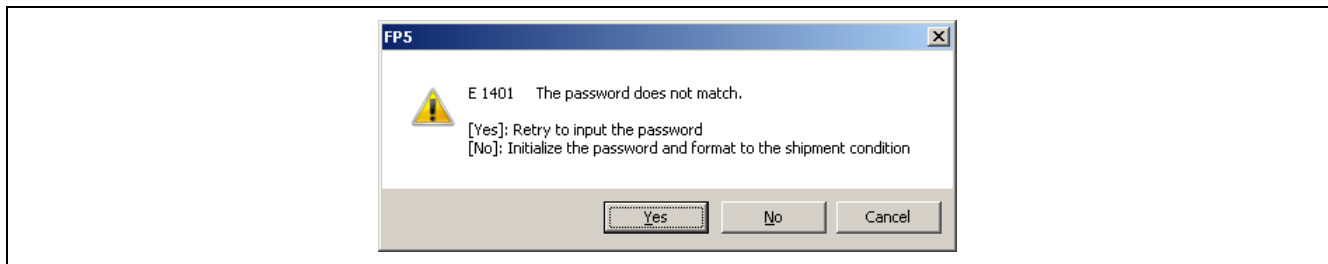
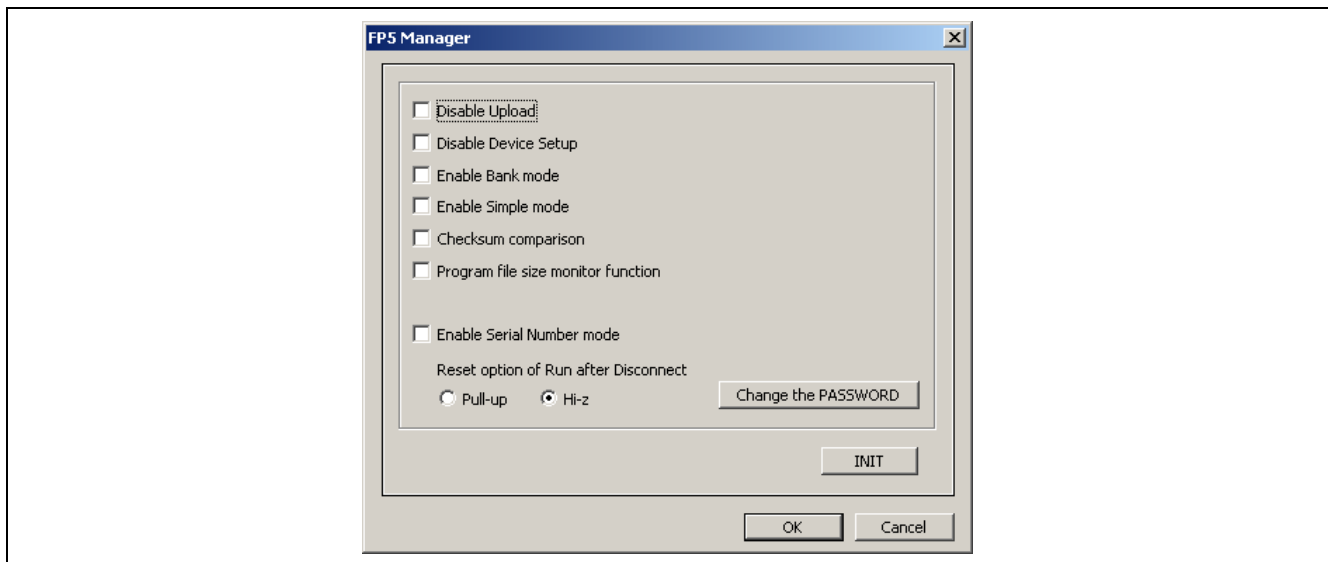

Figure 1.33 FP5 Dialog Box
Figure 1.34 FP5 Manager Dialog Box
If the password is correct the dialog box in Figure 1.34 will open. If the password is wrong, then the dialog box in Figure 1-33 will open.
- FP5 Manager Dialog Settings (Refer to Figure 1.34)